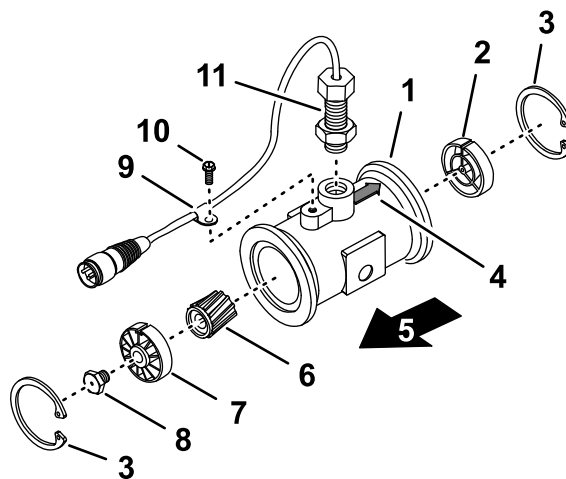

Figure 108
3. Remove the retainer ring on the upstream side (Figure 108).